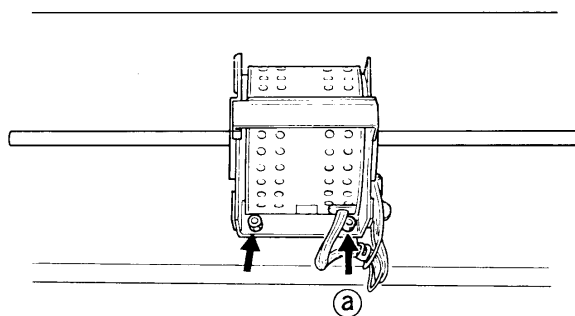

Fig. 13
- (1) Remove the four nuts (a) fixing the motor stand. Fig. 13